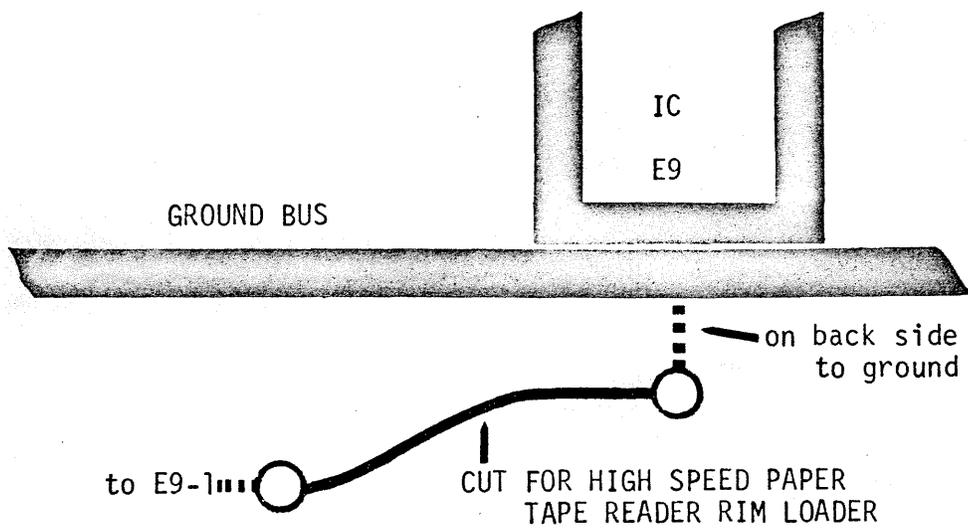

Figure 3-6. Wiring Change For High Speed Paper Tape Reader
**3.1.7.3 Paper Tape Reader Speed Change.** The XFD-108 optional ROM/IPL (Implemented Program Loader) is capable of controlling the PDP-8/E paper tape loader. It is normally set for a slow reader, but can be modified for a fast reader. This is done by cutting the PCB trace between E9-1 and ground as shown in Figure 3-6.